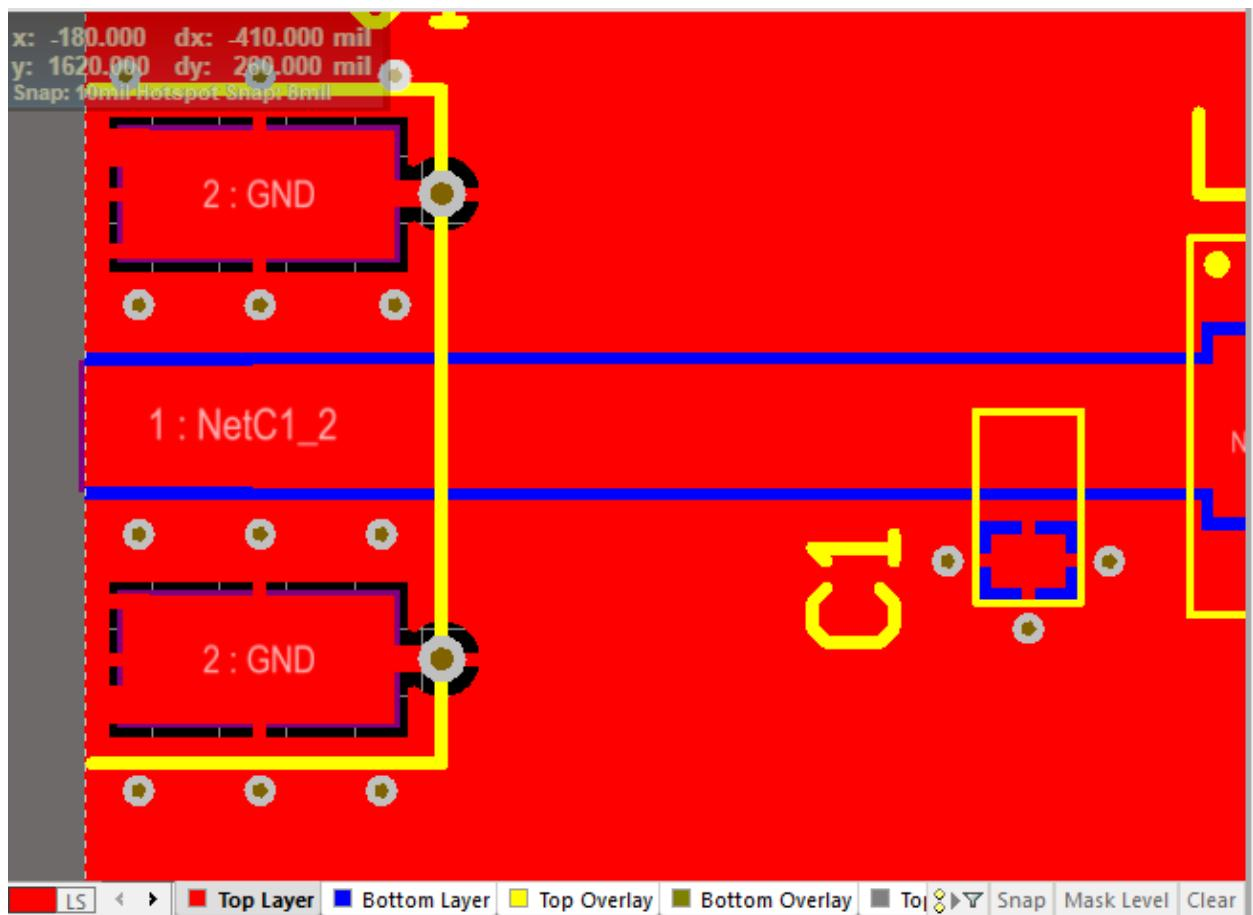

Figure 88: Altium PCB GND Via placement and thermal reliefs.
51. To connect the top and bottom layer vias are used. A via can be placed by pressing P than V first press **TAB** to set up the right parameters as shown in 87. The parameter Force complete tenting on top or bottom means that the via is not open the solder mask will cover it. Notice the drill hole size which is the minimum size possible by PCBway. Take care that the angular ring (Ar) is greater then the via hole. Place vias by hand and adjust grid resolution to simplify the task, as shown in Figure 88. Notice the thermal relieves around the pads which help by soldering but increase impedance. The thermal relieve could be eliminated by writing a rule if the engineer thinks it is a favorable design choice which you have to make and argue why.